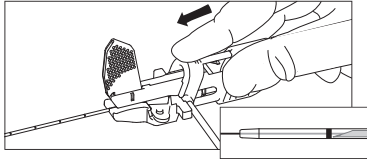

Figure 7
- Optionally, the catheter release tab may be utilized to initiate catheter advancement. Push forward on catheter release tab to advance catheter over needle bevel (refer to Figure 7). The catheter release tab has a stop at 1 cm; at this point the needle bevel will be covered by the catheter.